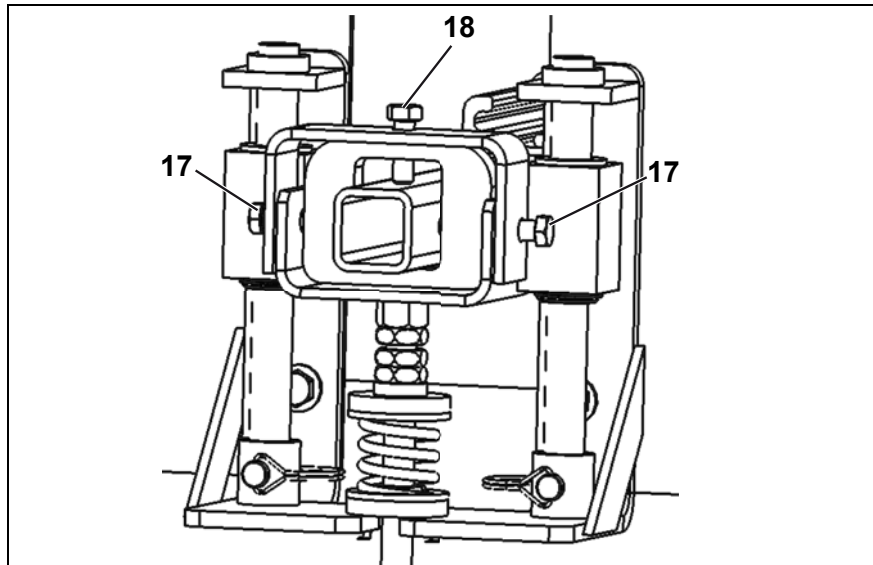

Fig. 16: Far side
3. Use the screws (17, 18, Fig. 16) to secure the mainframe.